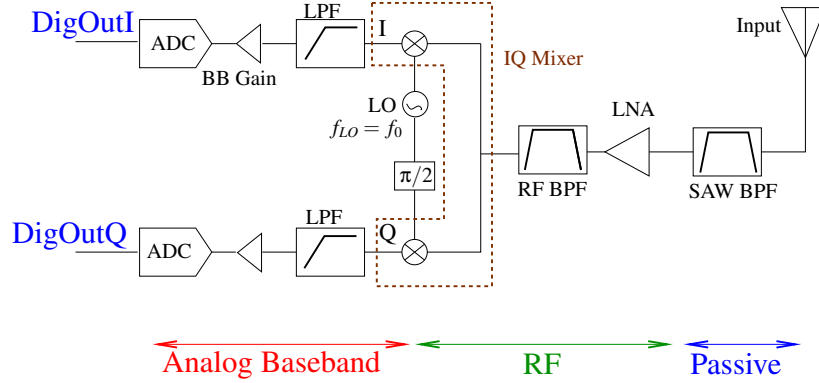

FIGURE 4 – RX block diagram
The diagram of the considered receiver is shown in Fig. 4. It is also an Inphase/Quadrature (IQ) Homodyne architecture. The signal is first filtered by an RF passive filter that will filter far out-of-band interferers. Then the signal, is downconverted by an IQ mixer where the signal is separated into two paths. The I-path and Q-path are both composed of a low pass Anti-Aliasing Filter and a Analog to Digital Converter (ADC). At the ADC output, the signal should have an SNR higher than 2 dB.